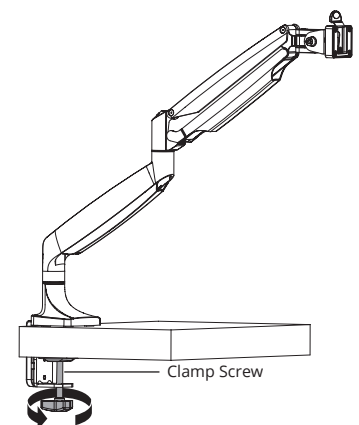

Figure 4
5. Position the Arm Assembly to the desktop. Loosen the clamp screw according to the thickness of the desktop. Tighten the C-Clamp to the desktop by turning the clamp screw clockwise, see Figure 4.